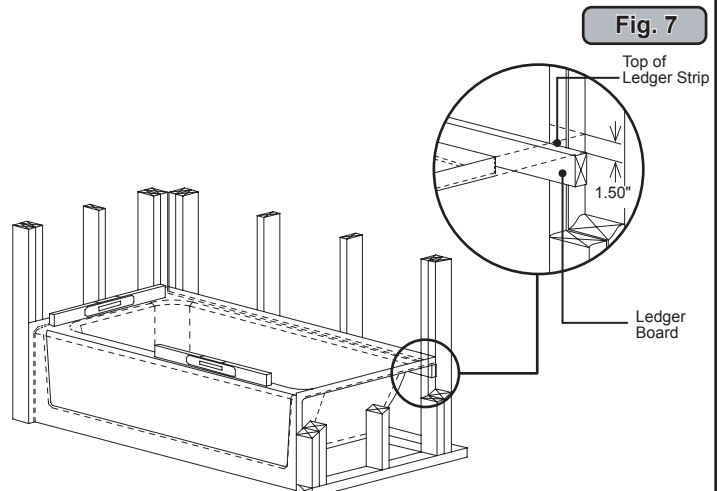

Fig. 7
1. Place the tub in the alcove with the front skirt firmly on the floor. The bathtub must be set level. To check, use a level on top of the ledges on both ends of tub and on top of dam (Figure 7).
2. After leveling tub, mark each stud (concrete or block wall) immediately above the back horizontal flange. Remove tub from alcove. Measure the distance between the top of the back horizontal flange and the bottom of the tub ledge approximately 1½" (40mm). Carefully mark this dimension on the back studs (or wall), below the first mark (Figure 7 inset).
3. Install a Ledger Strip: Jacuzzi mandates the use of supports under the rear ledges of bathtubs to prevent shifting. Use horizontal ledger strip along the entire rear ledge or "I", "T" supports in at least two places in vertical position. Nail a 1" x 3" x 60" (25mm x 75mm x 1525mm) ledger strip immediately below the lower marks made on framing (Figure 7 - inset).